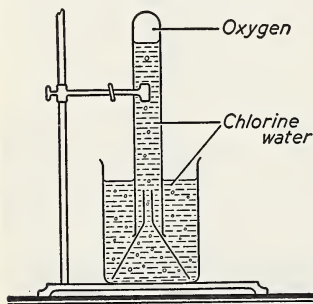

Fig. 72. The action of sunlight on a solution of chlorine and water.
13. Remove the chlorine generator from the system of gas bottles, and bubble chlorine through water contained in a 400 millilitre cylinder until the solution is saturated with chlorine. Fill a large test-tube with this solution, and invert it over a funnel, as shown in Figure 72. Allow the apparatus to stand in sunlight, and after all action ceases, test the gas which collects in the test-tube with a glowing splint. Test the liquid remaining in the beaker with blue litmus paper.